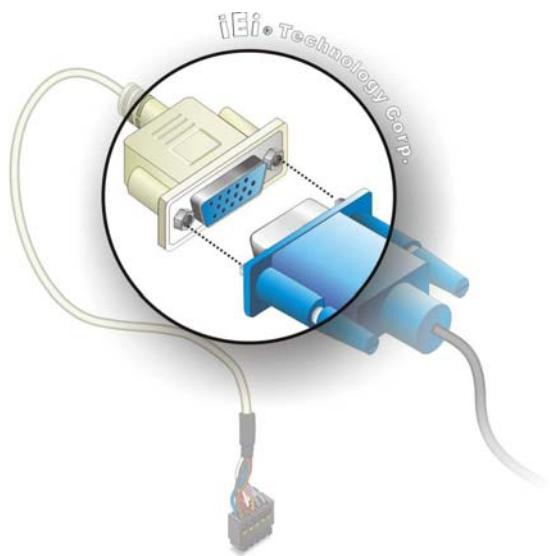

Figure 5-30: VGA Connector
Step 5: Insert the VGA connector. Once the connectors are properly aligned with the insert the male connector from the VGA screen into the female connector on the NOVA-9452. See **Figure 5-30**.